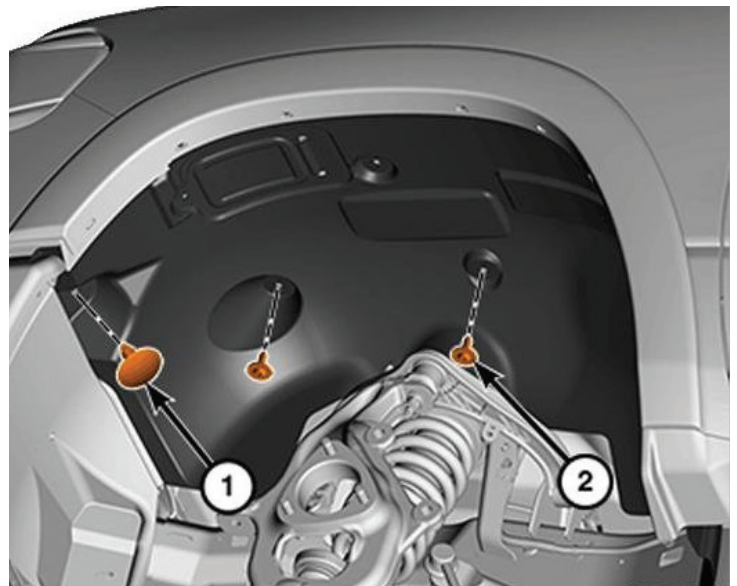

Figure 7
14. Using a plastic panel pry tool, remove the one (1) push pin from the inside front of the wheel well liner. (Figure 7,#1)
15. Using an 8mm socket wrench, remove the two (2) bolts from the wheel well liner. (Figure 7,#2)